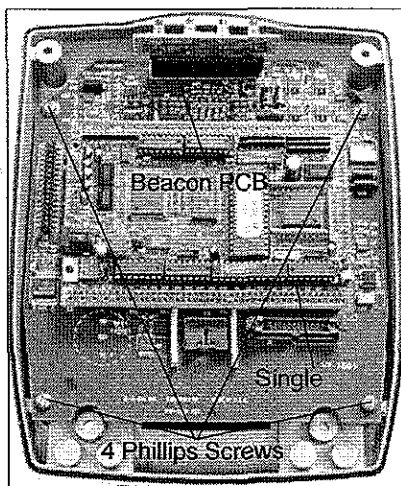

Figure 5-6a: Controller PCB
- > **For factory testing**, remove the Single Board Computer from the Controller PCB by gently prying it loose. It is mounted on connectors on all four sides (see Figure 5-6a). Use extreme care not to break the PCB.
- > **For factory testing**, carefully install a new Single Board Computer on the Controller PCB. It is mounted on connectors on all four sides (see Figure 5-6a). Use extreme care not to break the PCB.
6. Remove the Beacon PCB Assembly (see Figure 5-6a) and put it in a safe place.
- > **For factory service**, remove the Single Board Computer from the Controller PCB by gently prying it loose and put it in a safe place on an ESD pad. It is mounted on connectors on all four sides (see Figure 5-6a). Use extreme care not to break the PCB. After removing the Single Board Computer, proceed to Step 9.
8. Use the Phillips screwdriver to remove four corner screws from Controller PCB (see Figure 5-6a).
2. Use the Phillips screwdriver to secure the Controller PCB to the Injector Controller's Rear Enclosure (see Figure 5-6a).
3. If the original Single Board Computer had been removed as part of **factory-servicing**, carefully reinstall it (see Figure 5-6a).
4. Reinstall the Beacon PCB Assembly (see Figure 5-6a).
5. Remove four corner Phillips screws from the Controller PCB (see Figure 5-6a).
4. Secure the Controller PCB to the Injector Controller's Rear Enclosure with four corner Phillips screws (see Figure 5-6a).